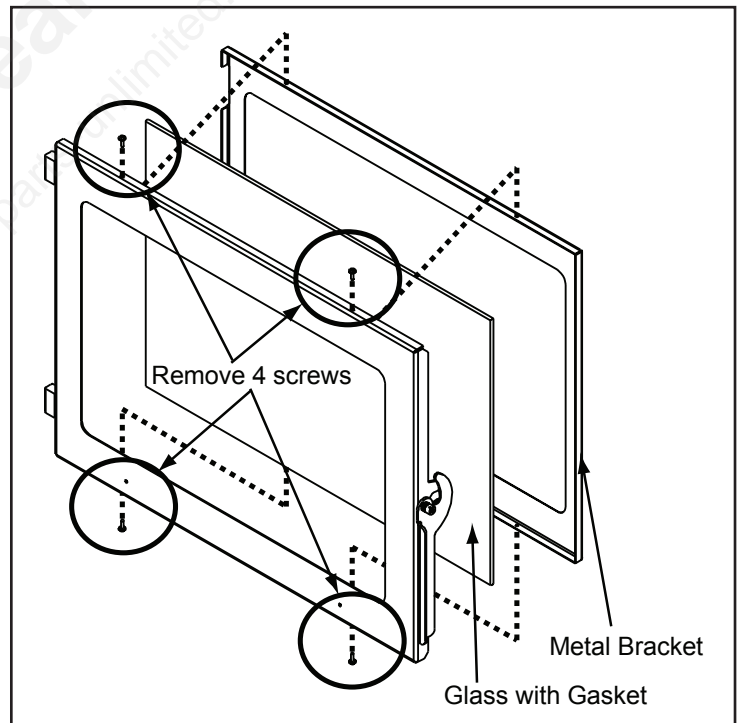

Figure 41.2
- b. Using a Phillips head screw driver, remove 4 screws, 2 on the top and 2 on the bottom. Remove metal bracket and then remove the glass. **Figure 41.2.**